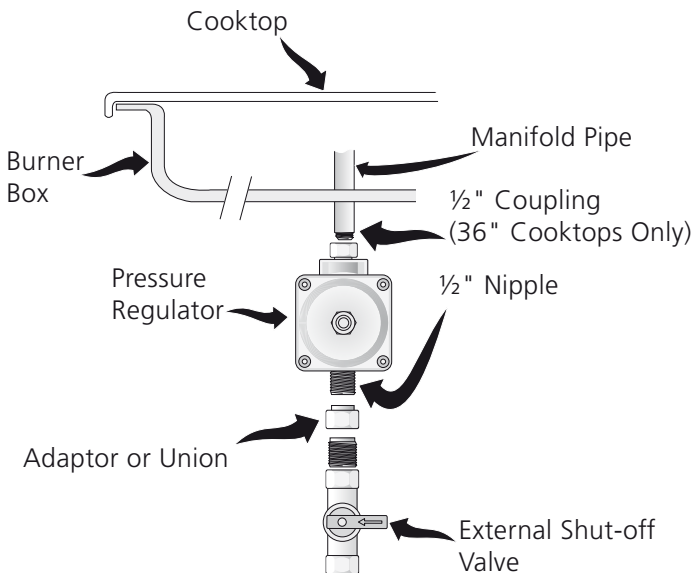

Figure 8
B. 30" and 36" Cooktops (see figure 8)